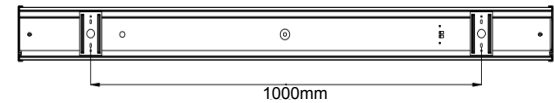

Fig. 3 SLS-4
**STEP 1** Use appropriate mounting hardware (not supplied) to secure the Snap On B rackets to mounting surface. Refer to recommended Snap On Bracket in Fig. 2 for SLS-2FT and in Fig3. for SLS-4FT.